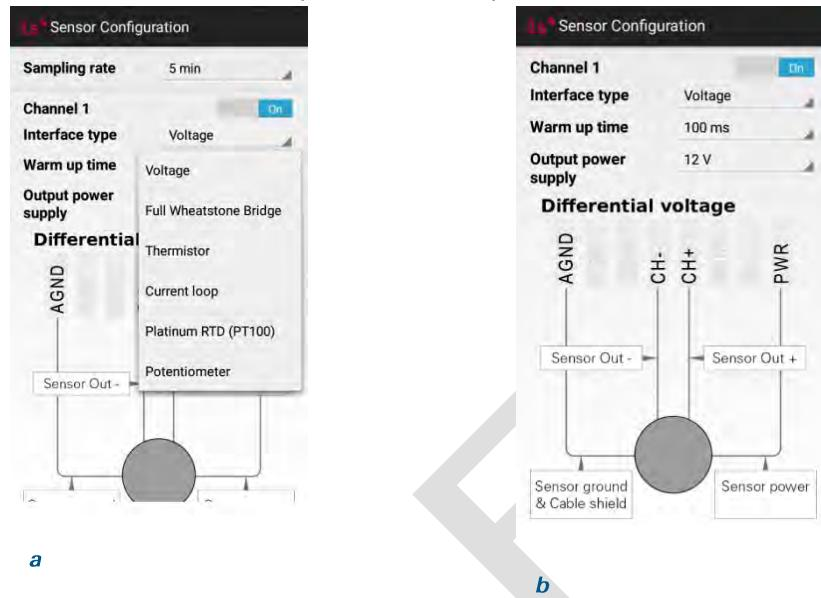

Figure 9: Sensor configuration options of LS-G6-ANALOG 4ch
- ANALOGUE datalogger (Figure 9): this datalogger supports six different analogic sensor types: voltage, full Wheatstone bridge, thermistor, current loop, PT100,